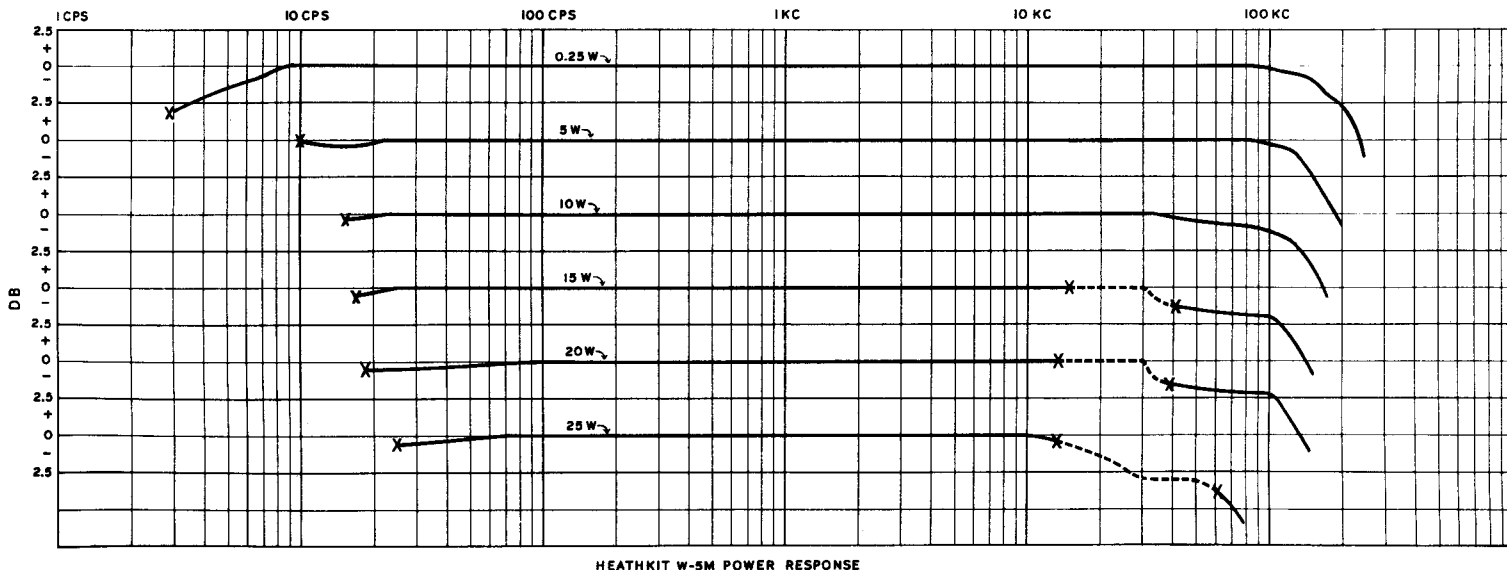
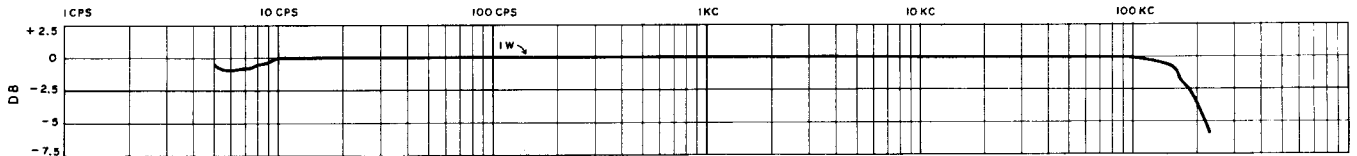

Figure 1
Figure 2 HEATHKIT W-5M FREQUENCY RESPONSE (1 WATT OUTPUT)
- Power Output Related to Frequency..... See Figure 1.
See Figure 2 below. This curve was taken at 1 watt reference output and may be considered as the voltage response of the amplifier
The curve in Figure 2, taken at 1 watt output and the 5 watt curve in Figure 1, represent average room listening levels. In this amplifier, a minimum of 500% reserve power is available to accomodate heavy bass passages and to make up for the relative inefficiency of less expensive speaker systems.